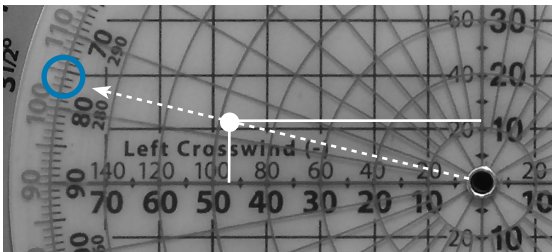

Figure 24.
8. Find the point of intersection of the two lines to determine the wind dot. Its position indicates we have an actual wind from 104 true at 48 knots (see Figure 24).